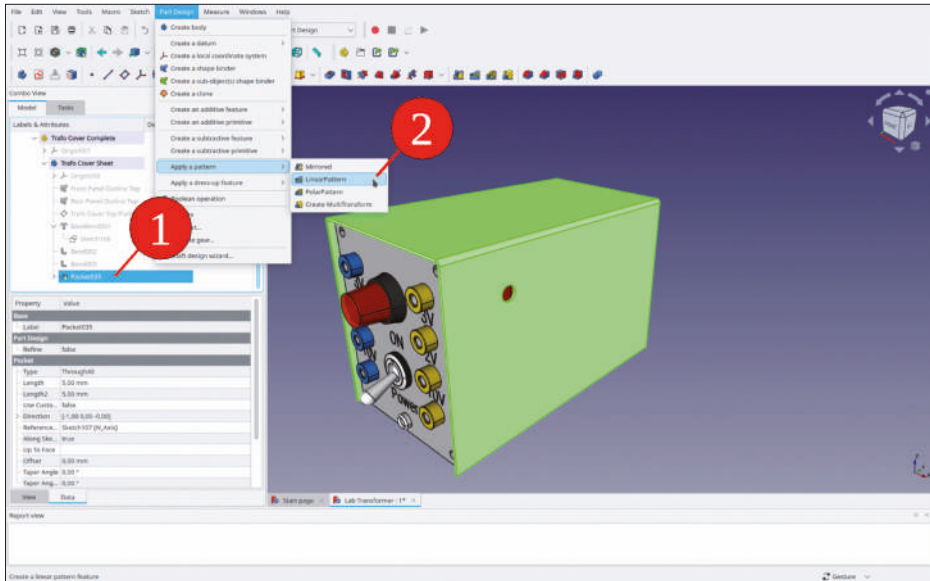

Figure 9-122
26. In the tree view, mark the last design state of the cover. Then, select from the main menu 'Part Design | Apply a pattern | LinearPattern' (Figure 9-122).